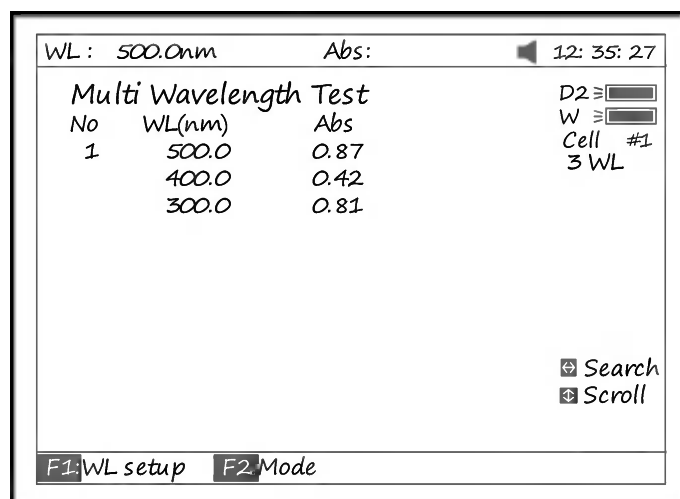

Fig 71
4. Pull the sample cuvette into Main Light Path, press **【START】** to test. The test results will be displayed on the screen (Fig 71).